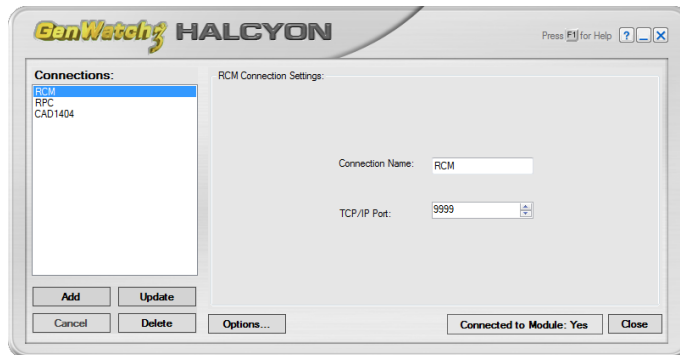

Figure 1.5 – RCM Connection Settings panel
4. Click **OK**: This will close the *Connection Type* window and show the **RCM Connection Settings** panel as shown in Figure 1.5.